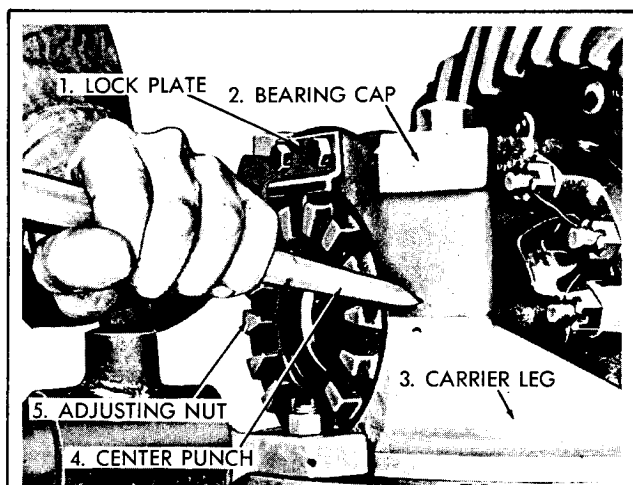

Fig. 3 — Center Punching Differential Carrier Leg
2. Remove the lockwire, the capscrews, and the adjusting lockplate (Fig. 3).
3. Center punch one of the differential carrier legs and bearing caps (Fig. 3). This will properly identify the parts during reassembly.